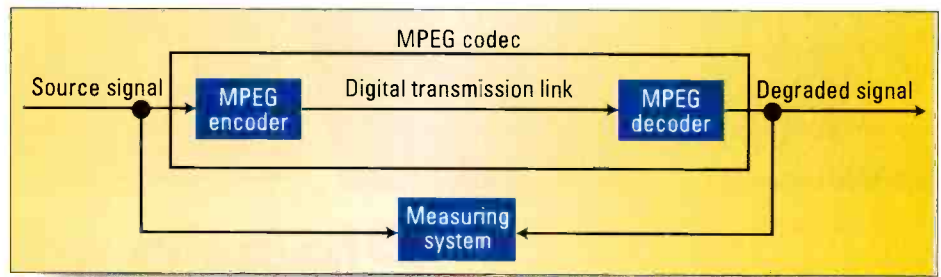

Figure 1. Picture comparison test setup
• *Picture comparison method:* As shown in Figure 1, this approach compares original and degraded source video signals (for instance, SDI 4:2:2@270Mb/s), feeding the input of the system under test (MPEG codec) with the degraded signal obtained at the output of the MPEG codec. This method is accurate because it has complete information about the original and the degraded signal. This obviously requires that the test equipment as well as the codec be available to the test personnel, a situation encountered in development laboratories. This test method could be extrapolated to a test situation where the MPEG encoder